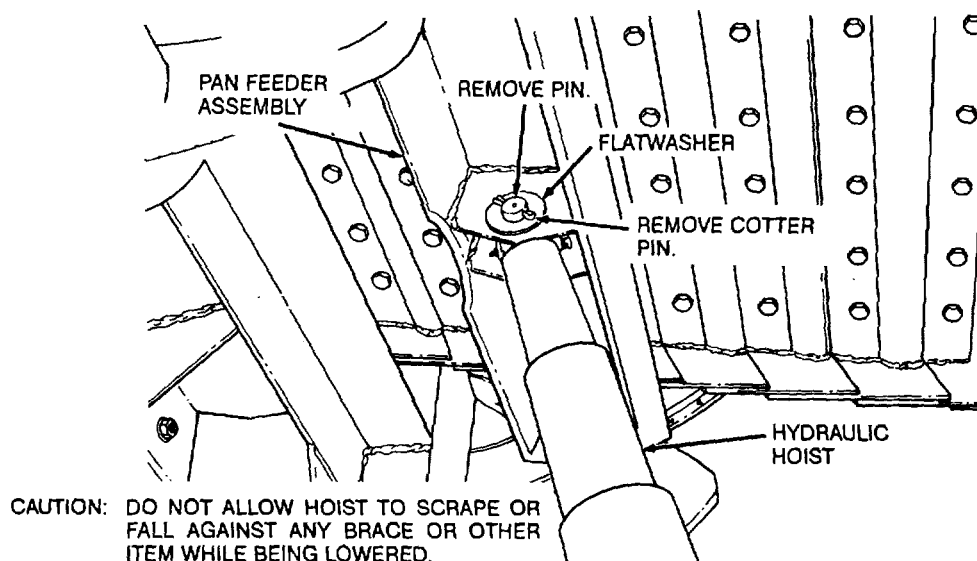

Figure 11. Hydraulic hoist, installed view.
- g. Disconnect the hydraulic hoist from the pan feeder (fig. 11). Turn the valve handle on the hydraulic pump counterclockwise to the OPEN position (fig. 7) and allow the hydraulic hoist to return to the lowered position.
- f. Install the hydraulic hoist on the pan feeder in reverse of the instructions on figure 11 and lower the feeder to the transport position (fig. 18) in reverse of the instructions on figures 7-10.